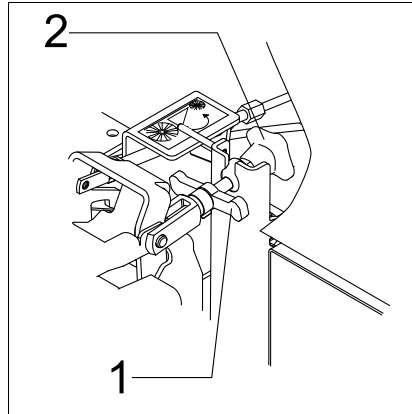

Fig.13 Broom adjustment
The sweeping track width can be adjusted by the star knob (Fig. 13/2) as follows:
- Loosen handle (Fig. 13/1)
- Turns star knob (Fig. 13/2)
- Fix handle (Fig. 13/1)